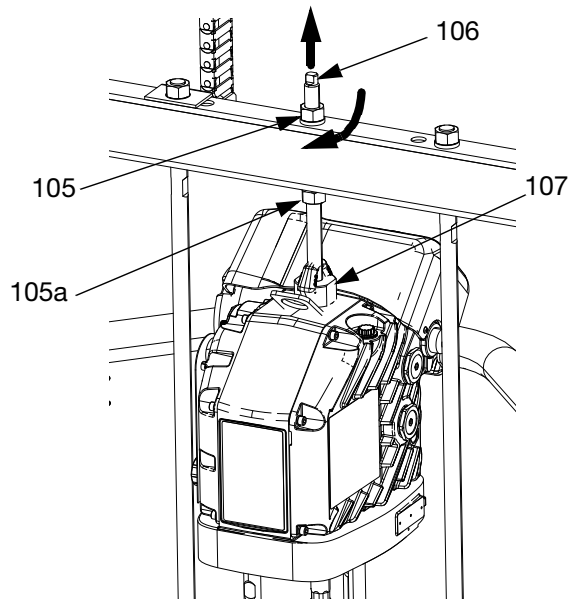

FIG. 36
- Insert Displacement Pump (AC) on Platen (AD). Follow **Connect Platen** steps on page 45.
- Connect Driver (AB):
- Use wrench on nut (105) on top of Ram bar to lower Driver (AB) onto Displacement Pump (AC). See FIG. 36 on page 46. Thread nut (105) up and tighten it under Ram bar. Tighten nut (105) below the crossbar to 25 ft-lb (34 N•m) maximum.